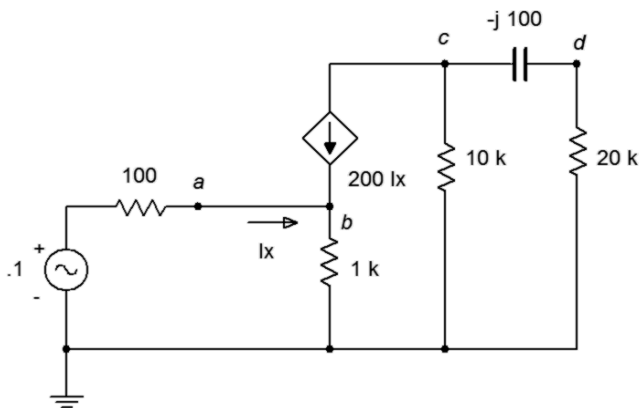

Figure 6.26
58. In the circuit of Figure 6.26, determine v_d .
59. Given the circuit in Figure 6.26, determine the current flowing through the 1 kΩ resistor.